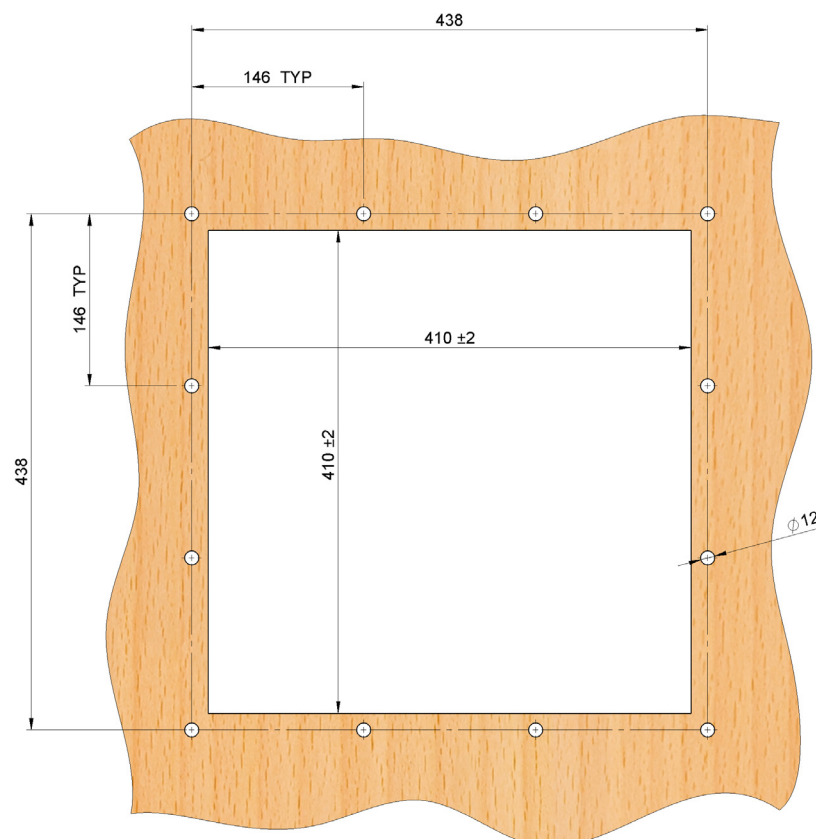
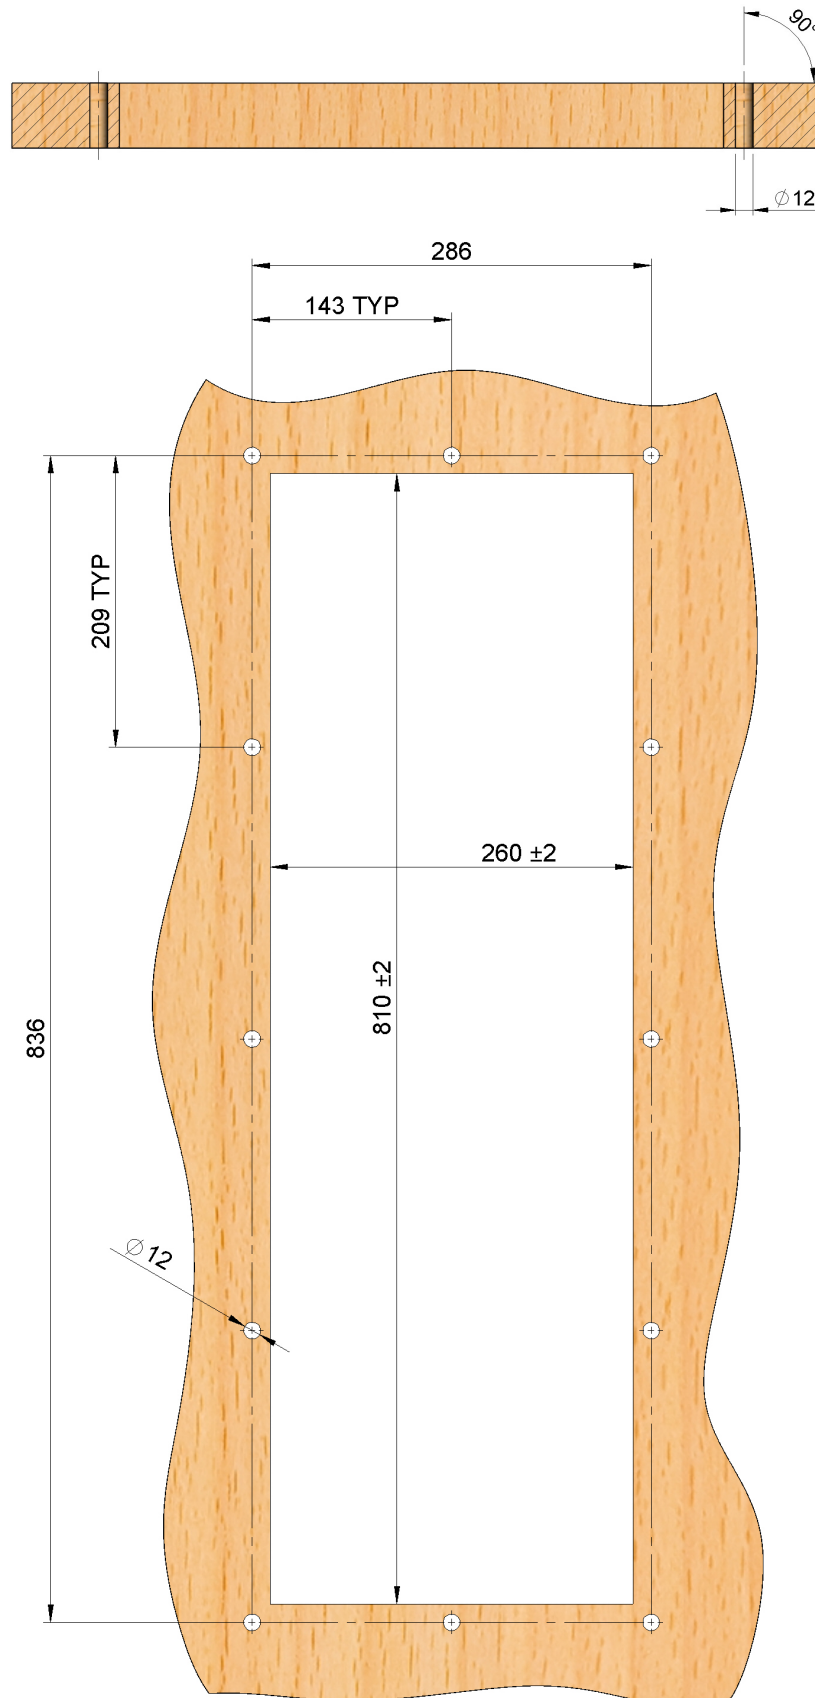

Fig. 4.
Fig. 5.
11. Either leave the template in place and work to it, or remove the template, and use the centre punches to mark what is needed and work from there. [See Fig.4 and Fig. 5 for details]